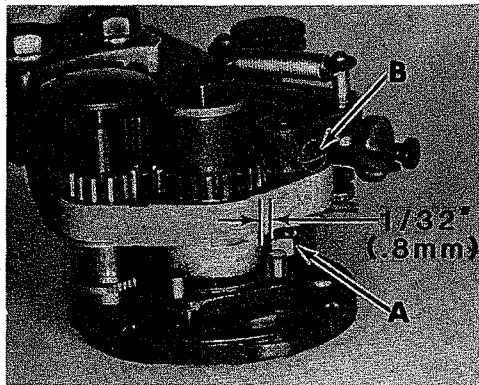

Fig. 44
The escapement lever (A, Fig. 44) functions as a stop for the button holder as it rotates 120 degrees each machine cycle. The lever must be adjusted to release the stop pins of the button holder allowing it to rotate.
There should be 1/32 inch (0.8 mm) clearance between the tip of the escapement lever and the clamp housing (Fig. 44).
Loosen screw (B, Fig. 44) located on the right side of the clamp and rotate the lever to the proper position. Remove end pin in shaft and tighten screw (B).